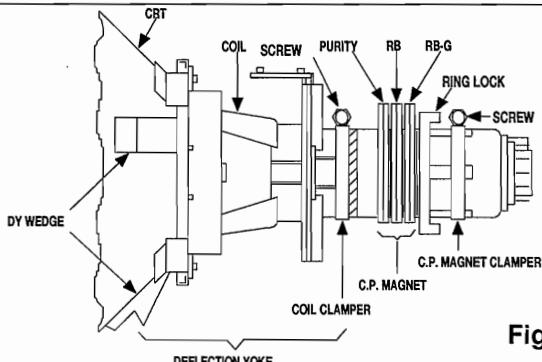

Fig. 5
5. Loosen the screw on the Deflection Yoke Clamper and pull the Deflection Yoke back away from the screen. (See Fig. 5)